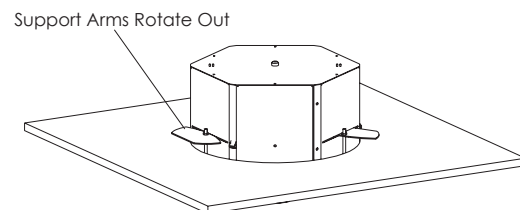

Figure 2
- With the bottom flange pressed up against the ceiling, rotate the support arms to the outside, the arms will fall to the back side of the ceiling. Tighten the (3) support arm screws (Figure 2).